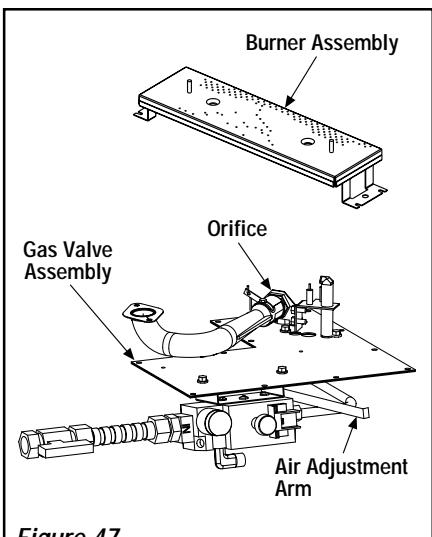

Figure 47
Step 3. Refer to *Figure 47*.
Step 8. (Refer to **Figure 47 on page 28**)